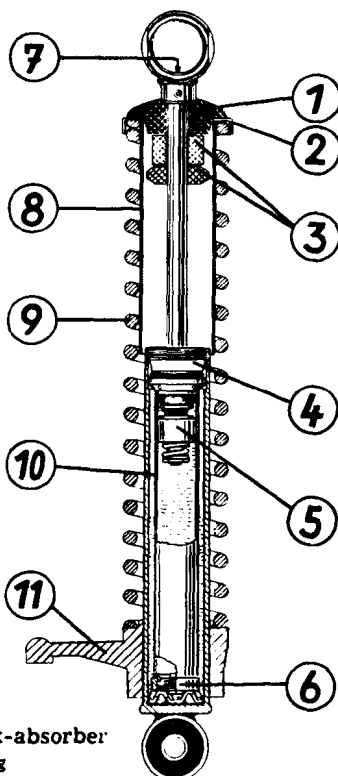

Fig. 172. Design of the Shock-absorber
Using the 05-MW 82 special wrench, unscrew the threaded member [(4) in Fig. 172] and pull out the damping device. Clean all parts in benzine and pour in new oil. Tighten the threaded member with a torque of 49 Nm (5 kp-m).
The marking of the tolerance group is located at the upper face of the piston rod [(7) in Fig. 172].